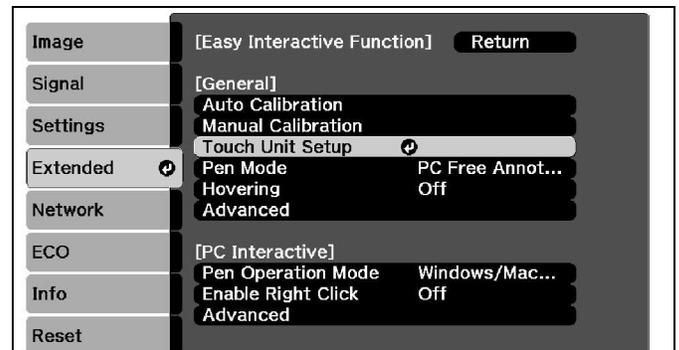

Figure 32
2. Select **Touch Unit Setup**. (See Figure 32)